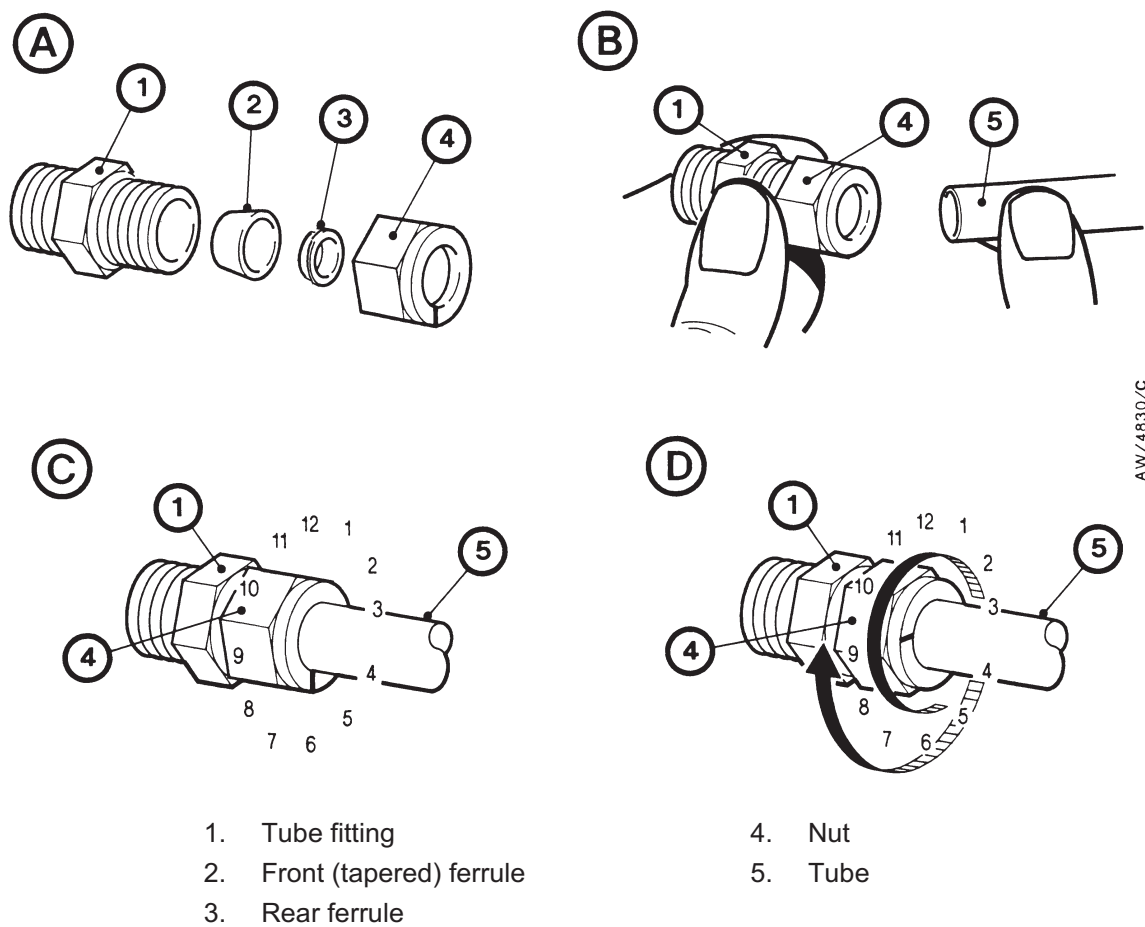

Figure 6-1 - Fit a tube fitting
1. Refer to Figure 6-1 detail A. Undo and remove the nut (4) from the tube fitting (1). Ensure that the front (tapered) ferrule (2) and the rear ferrule (3) are correctly orientated as shown in detail A, then loosely refit the nut (4) to the tube fitting (1).
2. Refer to detail B. Insert the tube (5) through the nut (4) and into the tube fitting (1). Ensure that the tube rests firmly on the shoulder inside the fitting, and that the nut (4) is finger tight.
3. Tighten the nut (4) until you cannot rotate the tube (5). If you cannot turn the tube because of how it is installed, tighten the nut by $\frac{1}{8}$ th of a turn.
4. Refer to detail C. Mark the nut (4) at the six o'clock position.
5. Refer to detail D. Hold the body of the connector steady, then turn the nut (4) by $1\frac{1}{4}$ turns (to the nine o'clock position) to fully tighten the connection.